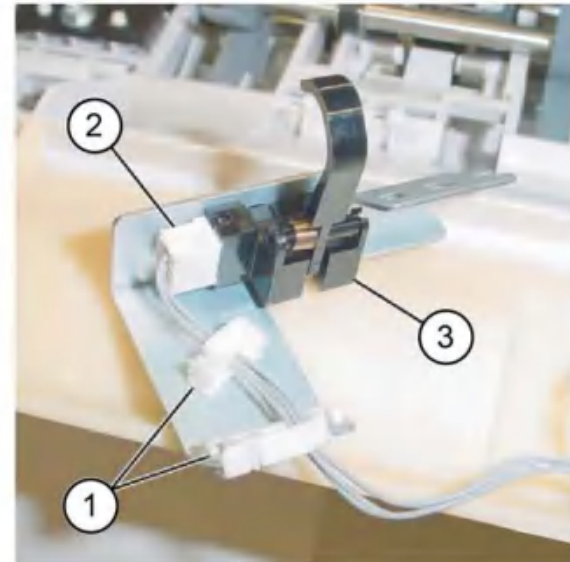

Figure 4 Compiler exit sensor removal
7. Remove the compiler exit sensor, **Figure 4**:
- a. Release the harness from the two clamps (1).
- b. Disconnect the connector (2).
- c. Remove the compiler exit sensor (3).